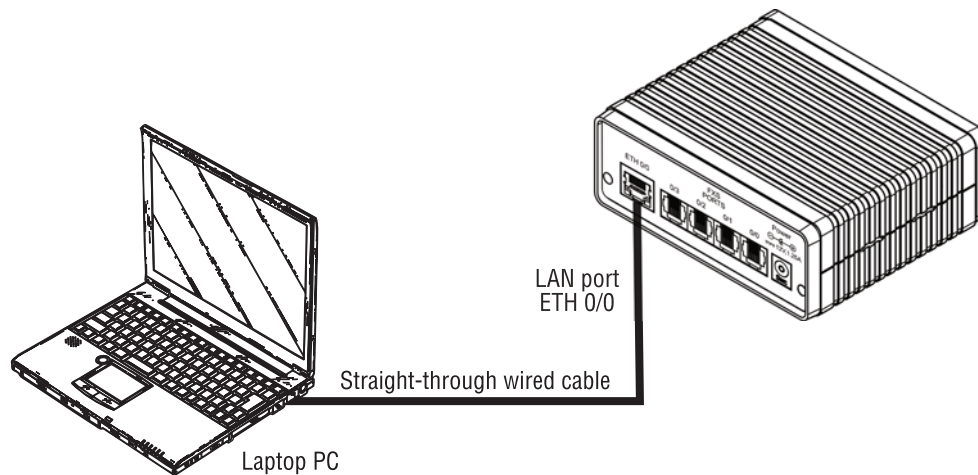

Figure 9. Connecting the SmartNode to a laptop PC
1. The SmartNode device is connected to a laptop PC (see figure 9) that is configured with a fixed IP in the same range as the SmartNode device's IP address (for instance: PC's IP address; 192.168.200.20; mask: 255.255.255.0).